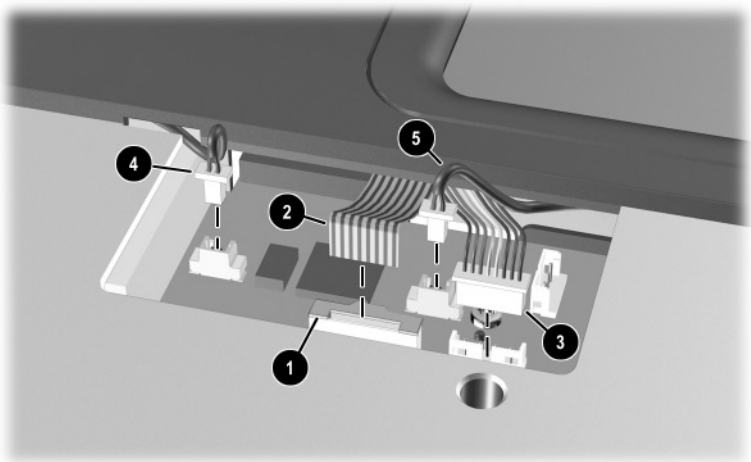

Figure 5-24. Disconnecting the Top Cover Cables
6. Release the ZIF connector ❶ to which the TouchPad cable is connected and disconnect the TouchPad cable ❷ from the system board (Figure 5-24).
- ❑ TouchPad button ❸
- ❑ Left speaker ❹
- ❑ Right speaker ❺